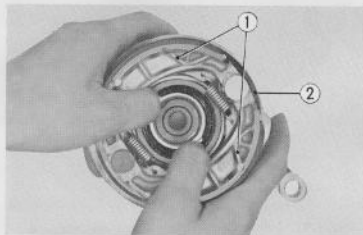

Fig. 4.59 Removing front brake shoes
- ① Speedometer cable
- ② Brake cable
- ③ Front axle
- ④ Castle nut
- ⑤ Panel stopper bolt
- ⑥ 8 mm-hex bolt
- (5) The front brake shoes ① shall be removed from the panel ② by spreading the shoes against the brake shoes spring pressure and pulling out. (Fig. 4.59)